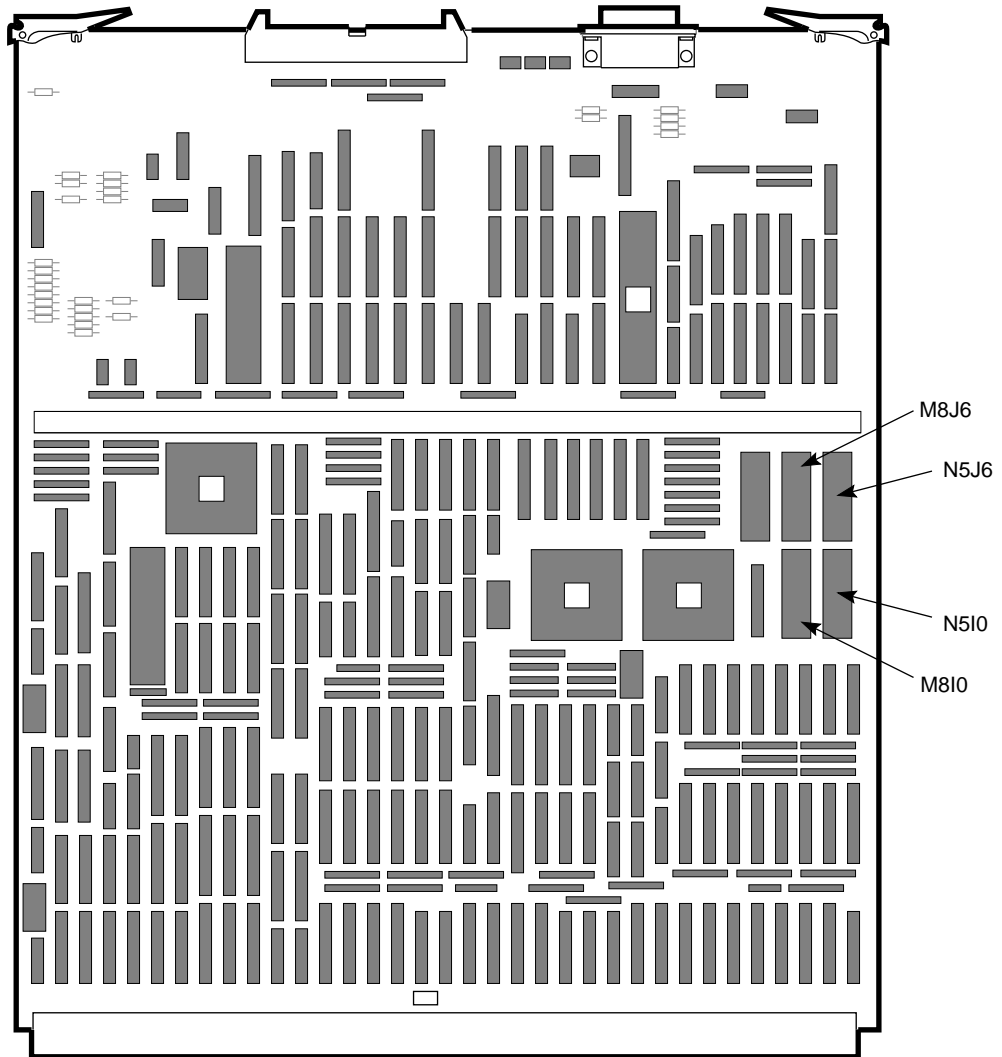

Figure 3-19 IO3 PROM Locations for RealityEngine
2. Remove the four IO3 PROMs at locations M8J6, N5J6, N5I0, and M8I0, as shown in Figure 3-19.